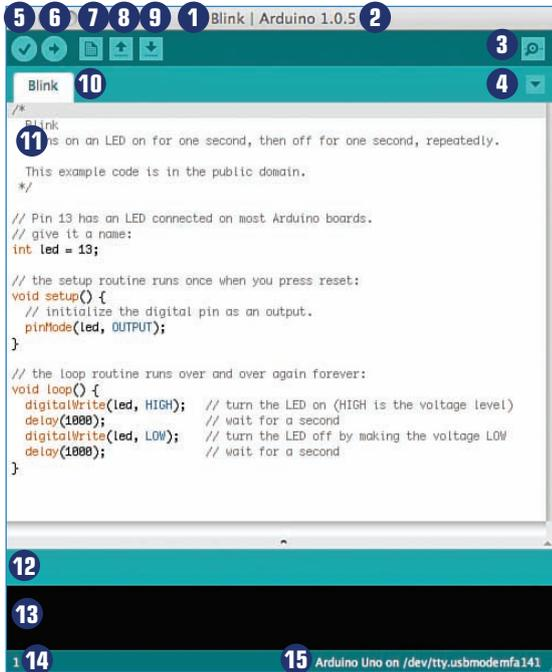

FIGURE 5.2 The Arduino environment's interface gives users a lot of options.
Broadly speaking, the IDE consists of a programming window and a set of menus. Figure 5.2 shows the Arduino IDE environment. Follow along with the callouts to see what each option does.
- 13 **Status window**—This black pane displays error messages incurred during upload. The Arduino software verifies all code being sent and won’t upload if there’s an error. If a problem is found, the error message attempts to display what’s wrong, though it’s often cryptic! As you can see, no error message appears in Figure 5.2.
Let's delve into the code. First, however, make sure you have the latest version of the Arduino software. Simply launch the application and look at the top of the programming window (callout 2 on Figure 5.2) to see the version number. Next, go to the Arduino website at arduino.cc and click on Download. It'll tell you the current release number there.